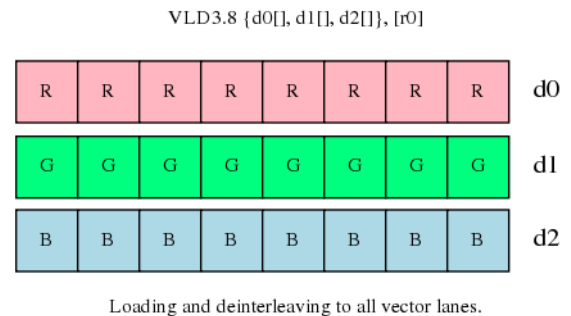

Figure 6-8 Loading and de-interleaving to all vector lanes
- load multiple lanes with the same element, as Figure 6-8 shows